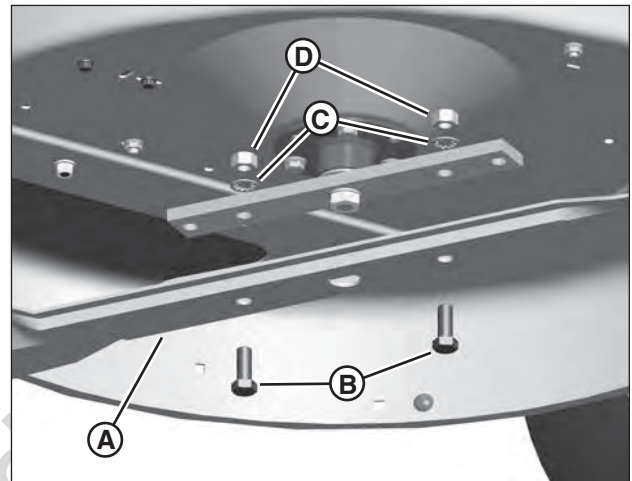

Figure 35: Removing the mower blade
2. Remove the bolts (B, Figure 35), washers (C) and nuts (D) securing the mower blade (A) to the spindle.